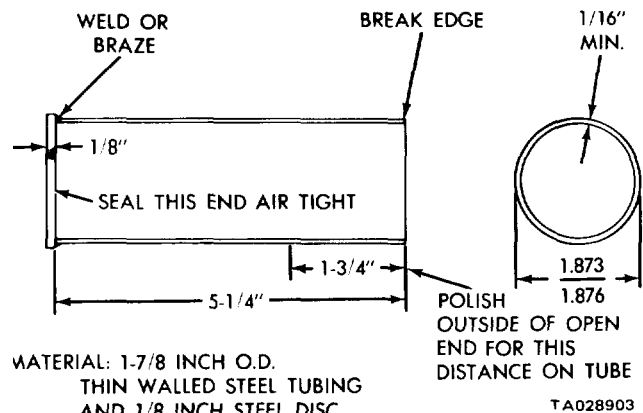

Figure 4-16. Converter Hub Seal Cup.
d. Air Pressure Test of Transmission. The equipment needed for the test is shown in figures 4-16, 4-17, and 4-18. After removing the torque converter, prepare the transmission for the pressure test as follows: